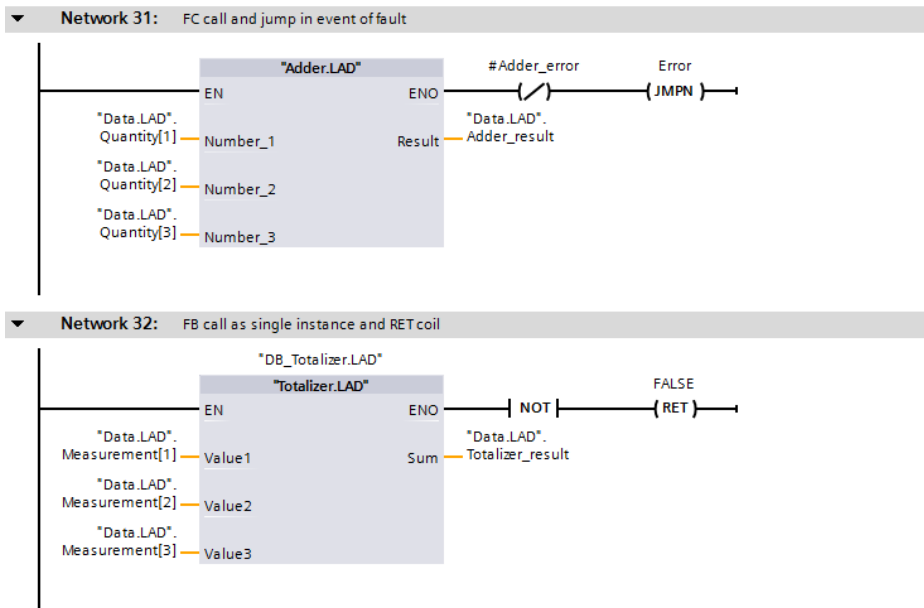

Fig. 7.37 Examples of functions for program control in the ladder logic
The top network in Fig. 7.37 shows the call of a function (FC). The function name is
In the second network in Fig. 7.37, the block with the RET coil is left if the “*Totalizer.LAD*” block signals an error. The ENO output of the exited block is set then to signal state “0” (FALSE).